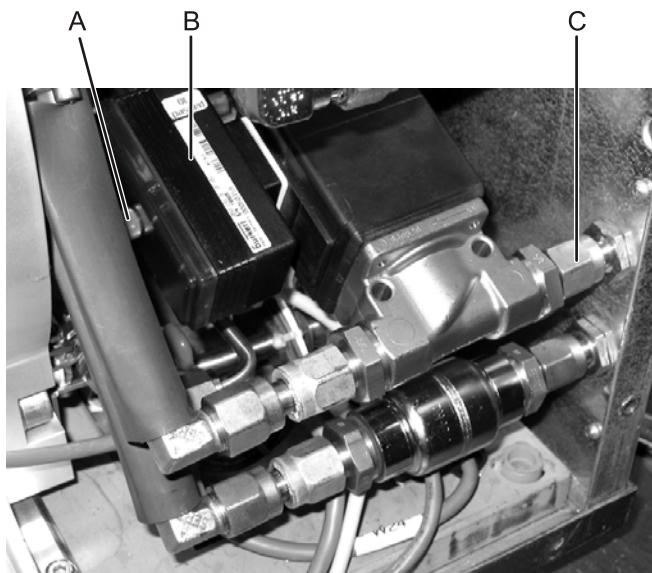

Figure 109: Regulating valve electronic box and inlet line connection
4. Loosen the knurled nut (see Figure 109, A) and remove the electronic box (B) from the pressure regulating valve. The electronic box only has to be exchanged if it is assumed to be defective. In this case refer to steps 15 to 21 under the heading "Connecting the Electronic Box to the LCB".
6. Use the 17 mm allen key to disconnect the water inlet line (see Figure 109, B) from the bulkhead connection.